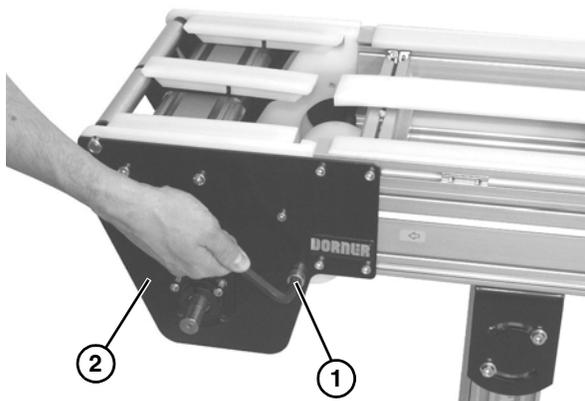

Figure 31
2. Remove socket head bolt (**Figure 31, item 1**) on each side of drive tail assembly (**Figure 31, item 2**).